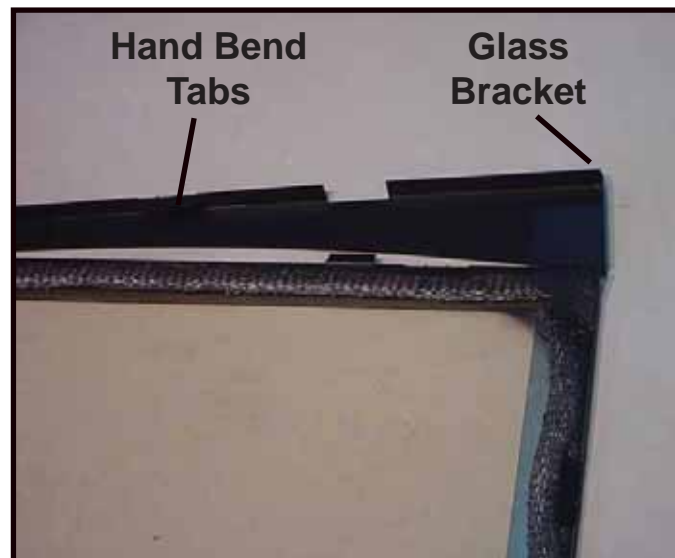

Figure 7.
3. Bend two tabs on bracket down around glass frame (see Figure 7).